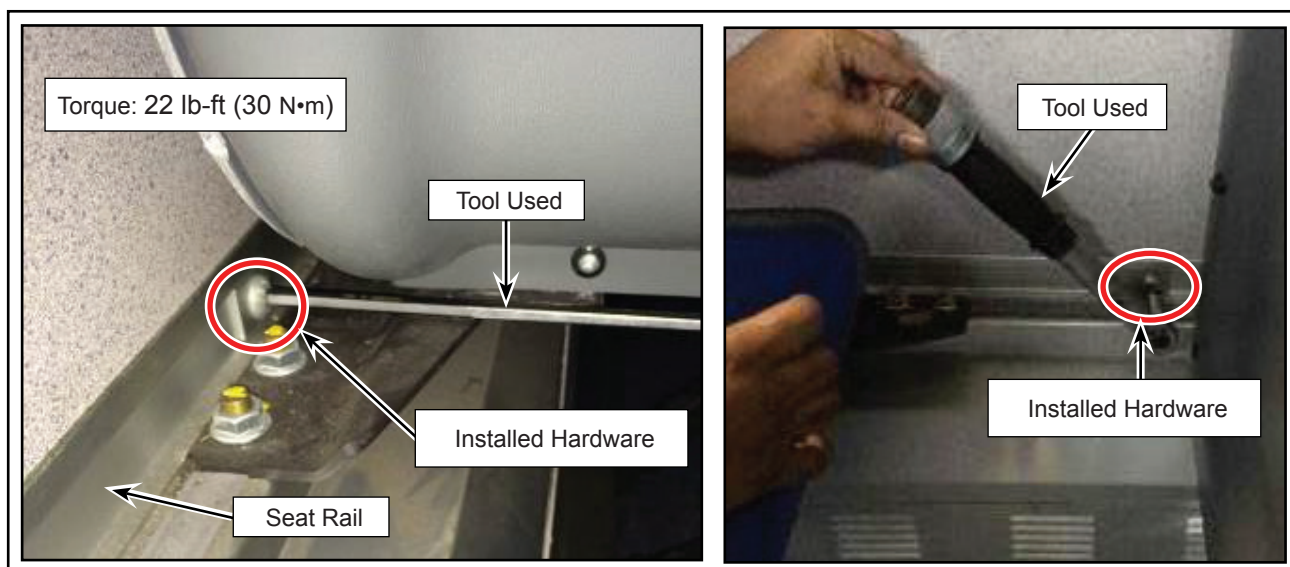

Figure 17 - Installation of Seat Rail Hardware
- 2.8. Torque the hardware as specified (see Figure 17) and apply torque seal.